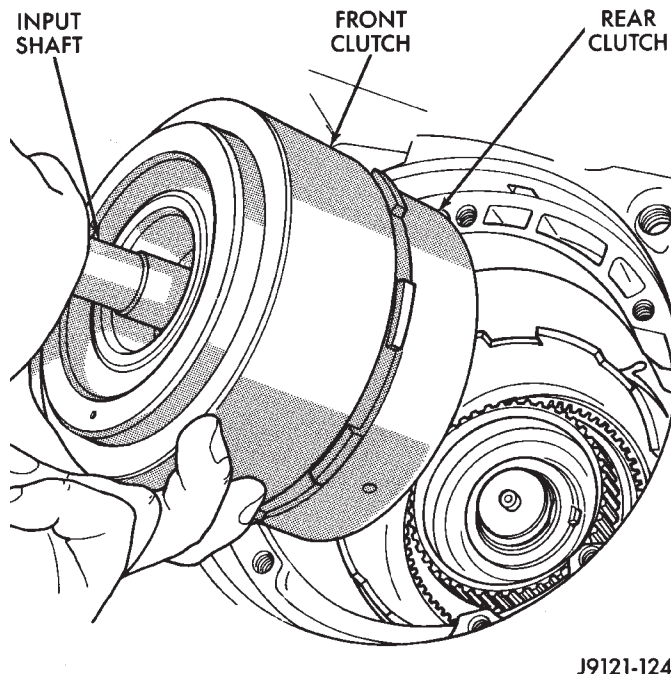
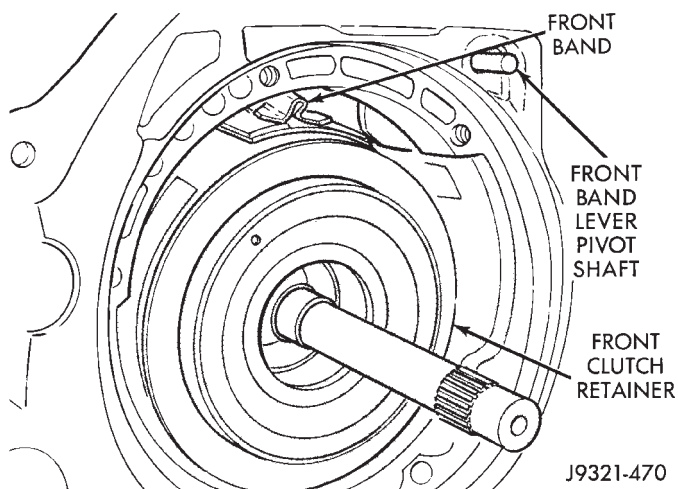

Fig. 159 Installing Front/Rear Clutch Assemblies
Fig. 160 Installing Front Band And Reaction Pin
(25) Install front and rear clutch units as assembly (Fig. 159). Align rear clutch with front annulus gear and install assembly in driving shell. **Be sure output shaft thrust washer and thrust plate are not displaced during installation.**
(26) Carefully work assembled clutches back and forth to engage and seat rear clutch discs on front annulus gear. Also be sure front clutch drive lugs are fully engaged in slots of driving shell after installation.
(27) Slide front band over front clutch retainer (Fig. 160).
(28) Insert front band lever pivot shaft part way into case (Fig. 160).